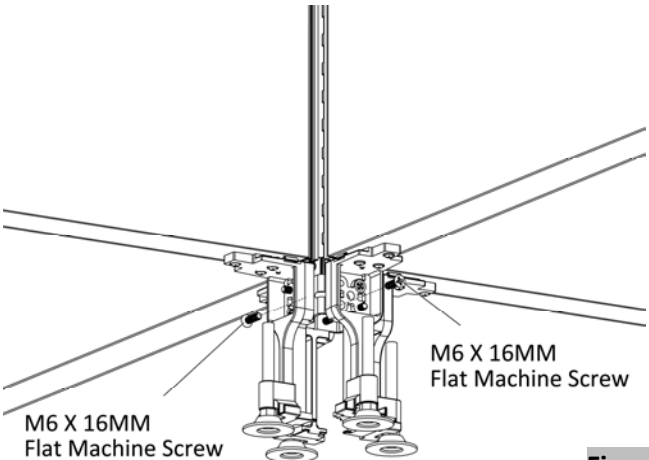

Figure 10
- 19.** Secure the base with two M6 X 16MM Flat Machine Screws, (Figure 10).